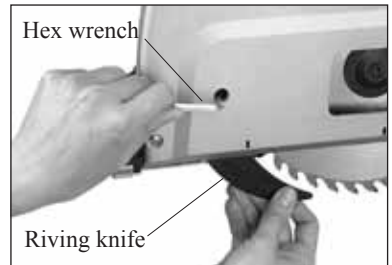

Fig.6
4. Set the riving knife correctly, and retighten the locking bolt. Double check the adjustment, as it is spring loaded and can shift when being tightened. See fig.6